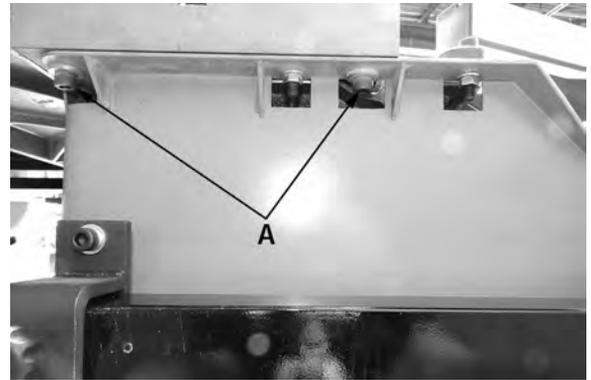

FIGURE 56
4. To adjust main table position, loosen the 4 cap screws (A) Fig.56 underneath the main table, two of them are shown in Fig.56. Move the table slightly, just enough to bring the table in line so the rear and front measurements are identical.
5. Retighten all 4 cap screws (A) Fig.56 and reverify your adjustment. Readjust if needed.